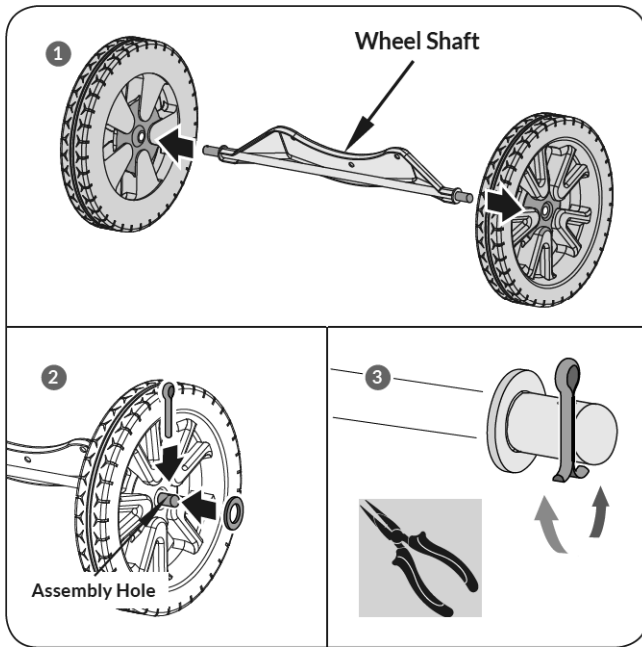

Figure 1
1. Slide a wheel assembly on to each end of the stub axle as seen in **Figure 1 Illustration 1**. Place the flat washer onto exposed axel. (See **Figure 1 Illustration 2**) Take the cotter pin from Hardware Kit#1 and insert into and through the axle hole. Then, bend the ends of the cotter pin. (See **Figure 1 Illustration 3**)